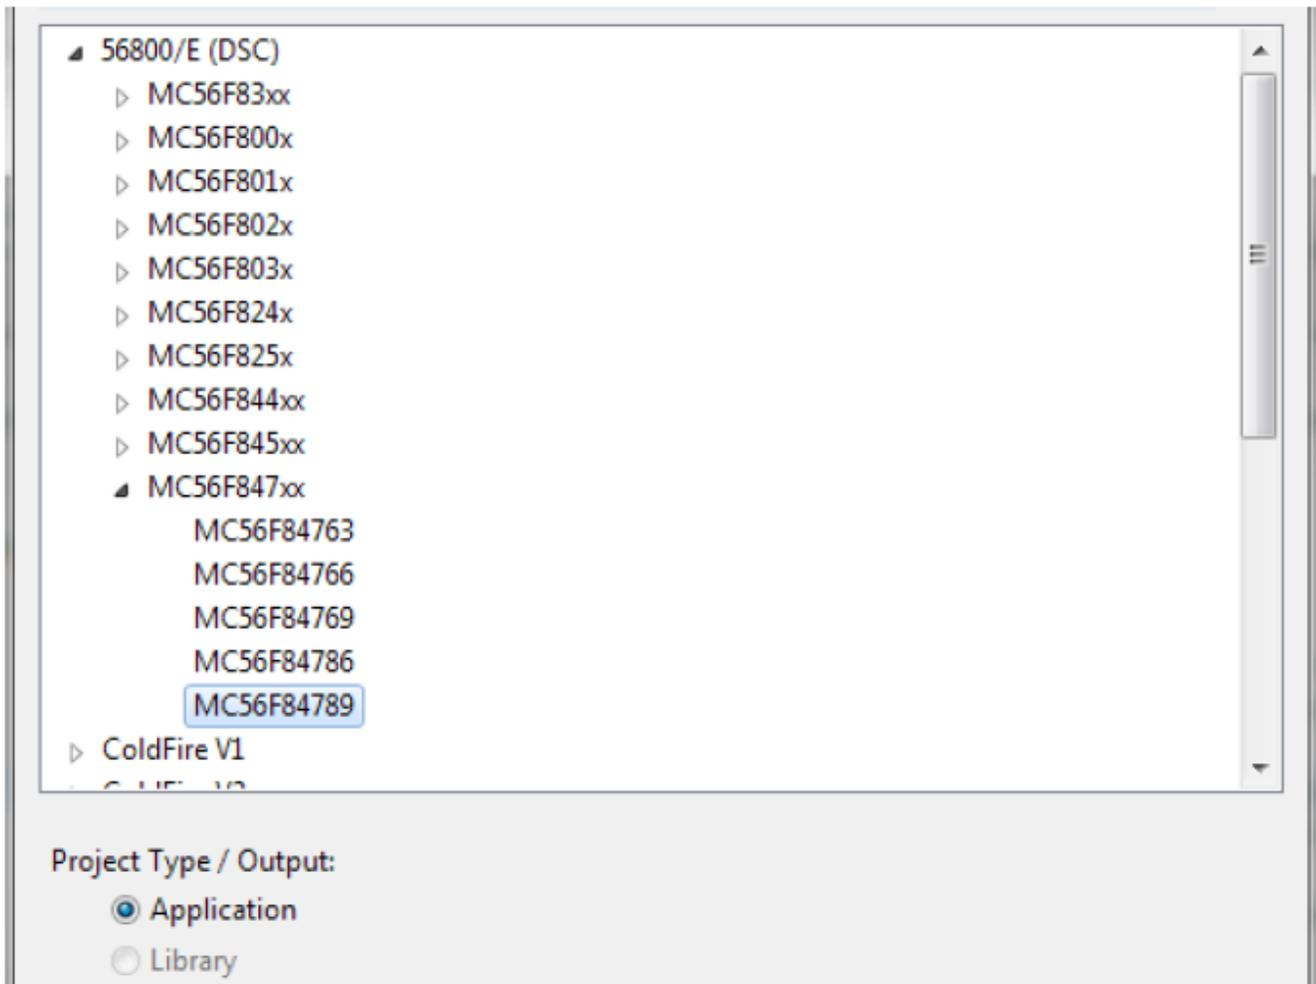

Figure 2. Processor selection
5. Expand the tree by clicking 56800/E (DSC) and MC56F84789. Select the Application option and click Next. See Figure 2.